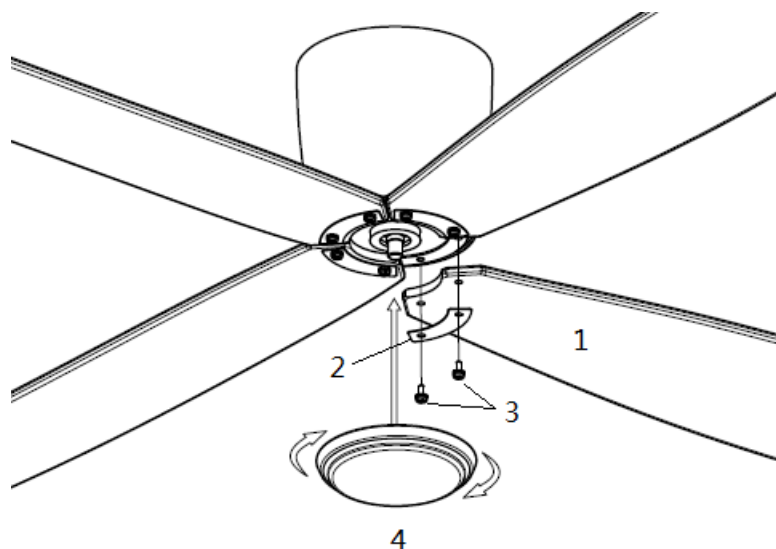

Fig. 6
- Insert the blade screws through the blade assembly in the following order - bracket kit (2) and blade (1). Attach the blade assembly to the motor and secure it by tightening the 2 screws (3). Fig. 6
- Finally install the bottom cover (4) to the shaft of the motor by rotating it clockwise.